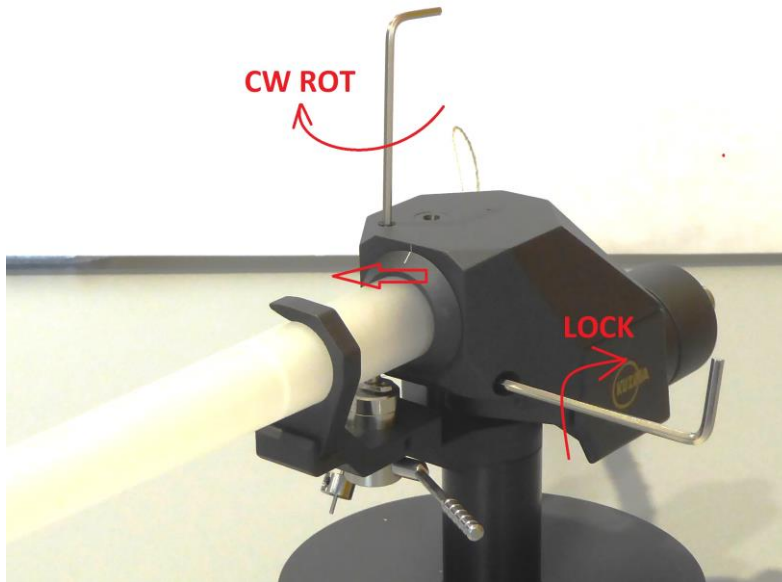

Fig. 14. Azimuth adjustment-unlocking
To make azimuth adjustments, release the screw locking the mechanism on the side of the tube assembly with Allen key 2,5mm. Insert the Allen key 2 mm into the screw (it may feel loose), rotate it slightly and it will alter the azimuth. ( Fig. 14.)